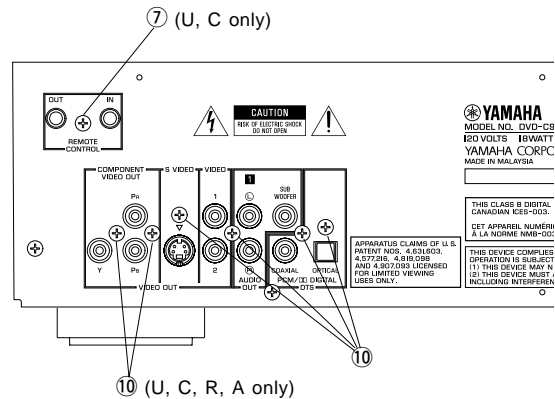

Fig. 5
- a. Remove screw ( ⑦ ) and then remove the Main (6) P.C.B. in Fig. 5.
**6. Removal of Main (1) P.C.B.**
- a. Remove 6 screws ( ⑩ ) in Fig. 5.